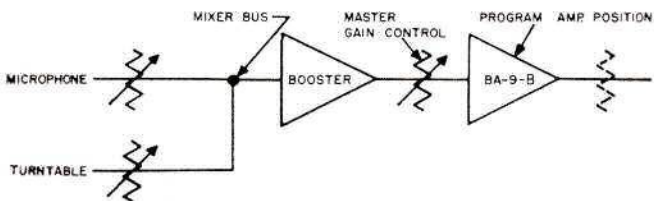

Fig. 2. Using the BA-9-B Uni-Level Amplifier as an Automatic Fader Control
- g. **May be used as an automatic fader control.** (See Fig. 2—Typical Applications.)
The use of the "Uni-Level" Amplifier as an automatic fader control is outlined in Figure 2. In this application, the turntable signal level should be set so that it results in a GR scale reading of about 2 to 3 db of gain reduction. The microphone level at the mixer bus is set about 20 db higher than the turntable signal at the same point.